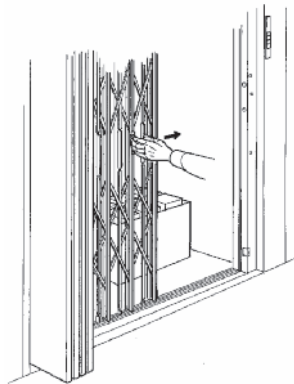

Fig. 13
- when loading is complete, gently close the inner car gate (where fitted) and then close the landing door, ensuring it clicks shut (Fig. 13).